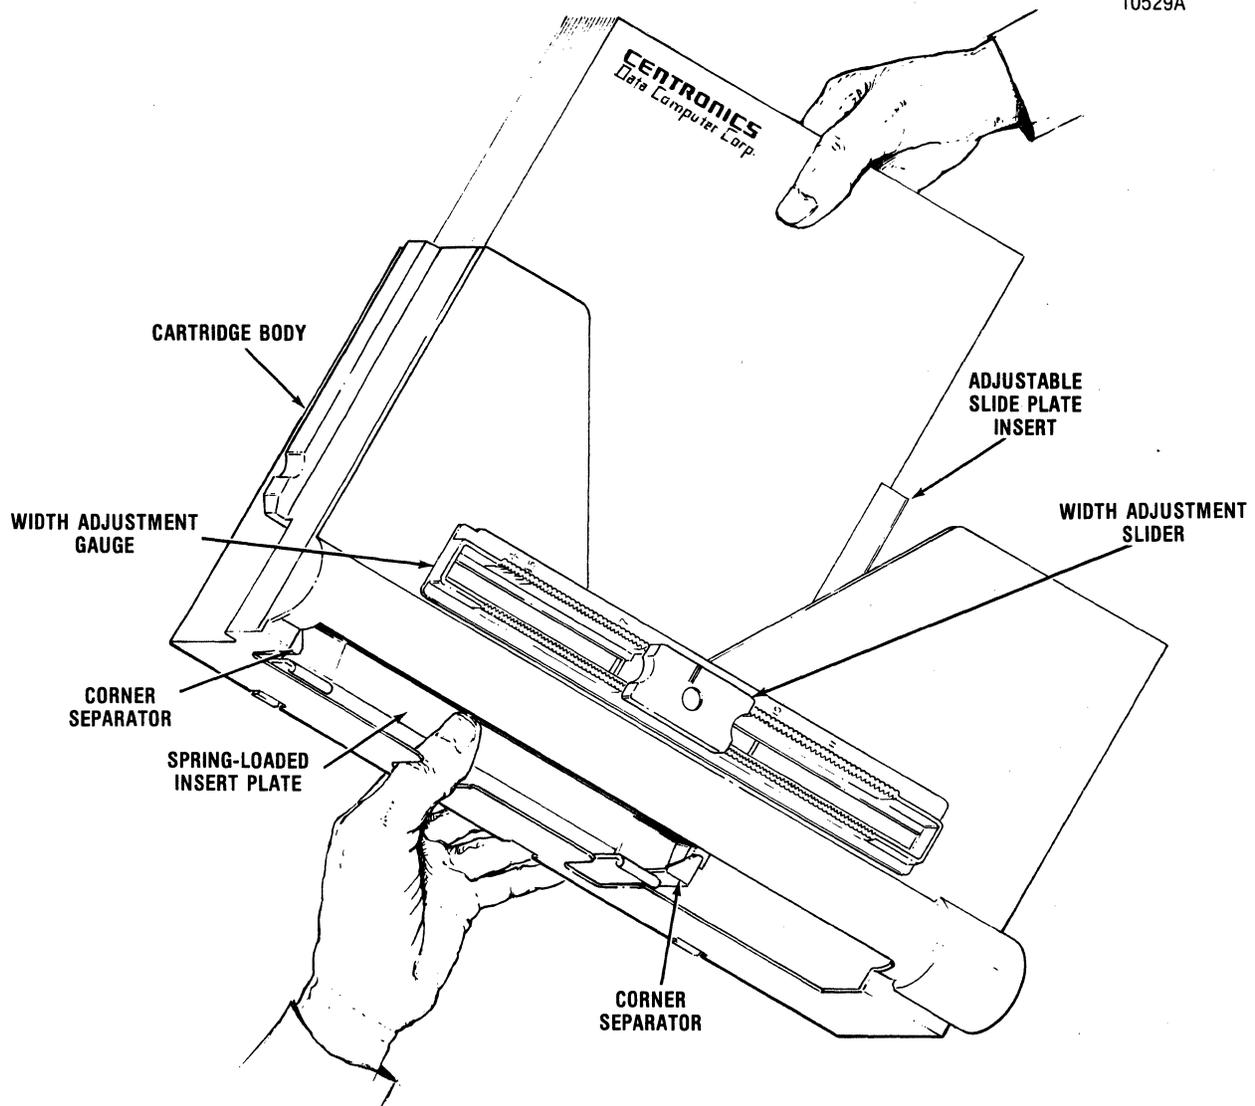

Figure 4-2 Loading the Variable-Width Cartridge
Refer to Figure 4-2 and perform the following steps to load sheets into the variable-width cartridge.
10. Ensure all sheets are below the corner separators (refer to Figure 4-2), and against the base of the insert.
The insert should be adjusted before envelopes are loaded. To adjust for size 9 envelopes, loosen the adjustment knob at the back of the cartridge (see Figure 4-2), move the adjustment knob to the far right, then tighten the knob to lock the adjustable side plate in position. To adjust for size 10 envelopes, loosen the knob, move the knob to the far left, then tighten the knob to lock the adjustable side plate in place.